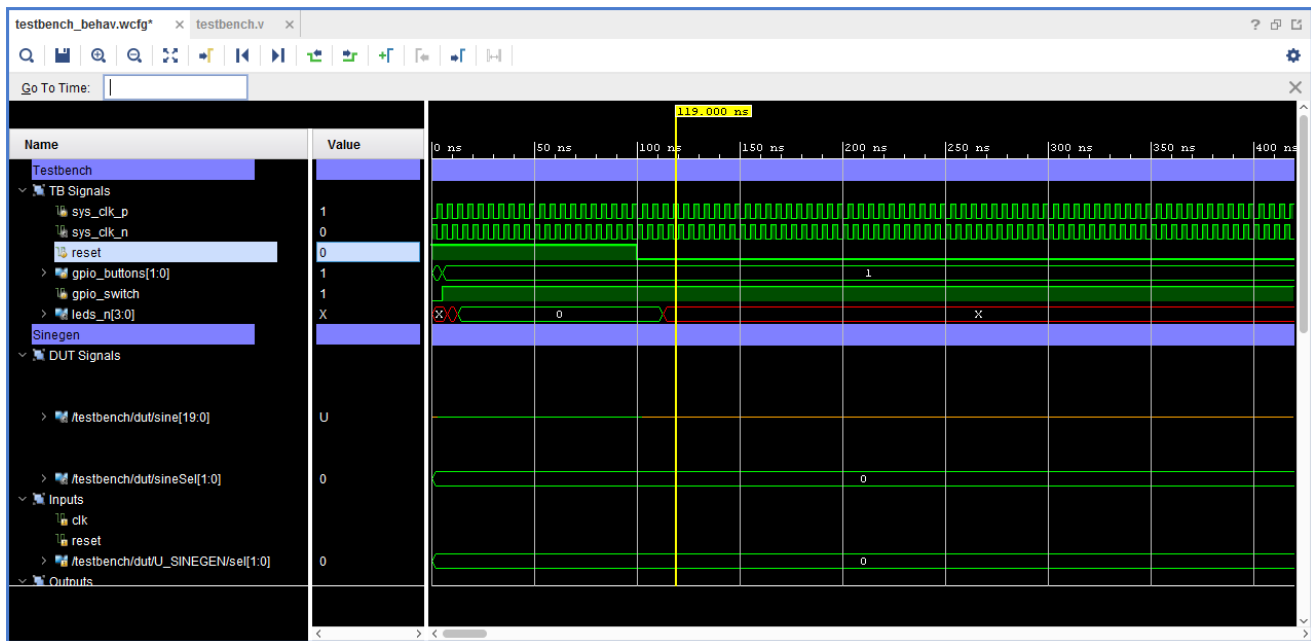

Figure 25: Viewing Reset and Clock Signals
8. Continue to zoom in the Waveform window as needed, until you can see the `reset` signal asserted low, and you can see the waveform of the clock signals, `sys_clk_p` and `sys_clk_n`, as seen in Figure 25.